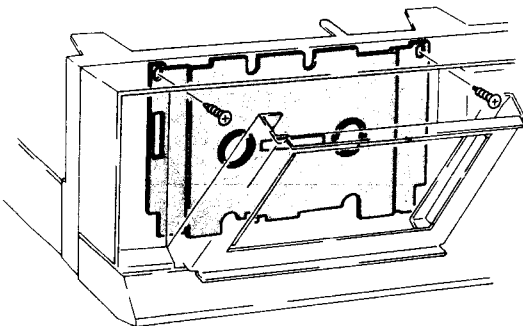

Fig. 3
2) Remove 2 screws to take off cassette plate. (See figure 3)